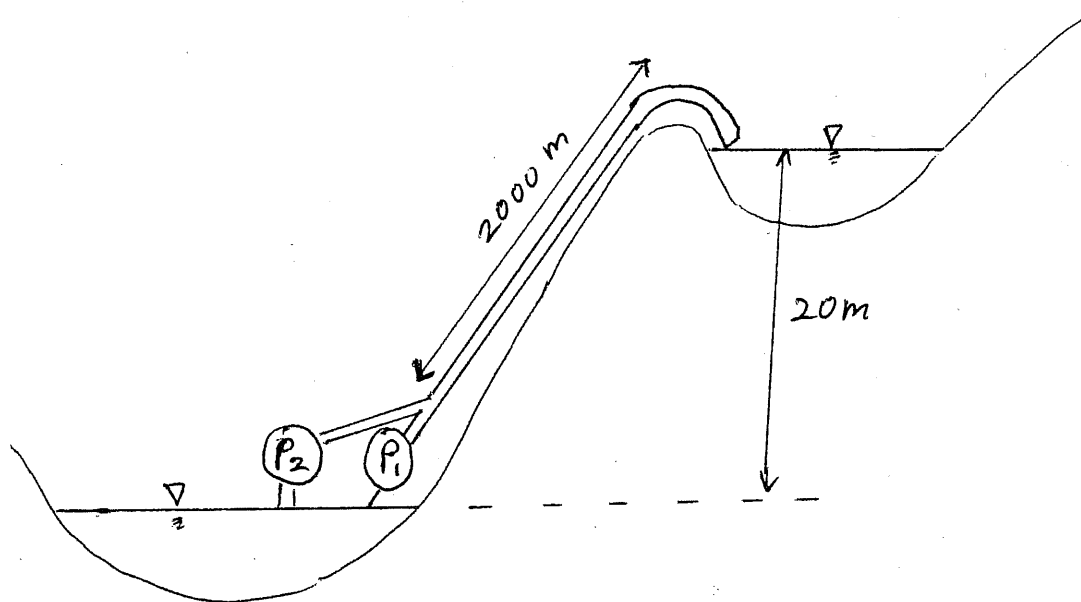

FIGURE 7
7) A pump, P_1 , is used to pump water from one reservoir to another as shown in Figure 7. The difference in elevation between the surfaces of the reservoirs is 20 m. The pipeline has a diameter of 150 mm, a friction factor of 0.012 and a length of 2 km. The performance characteristics of the pump at its operating speed are given in Table 7a.